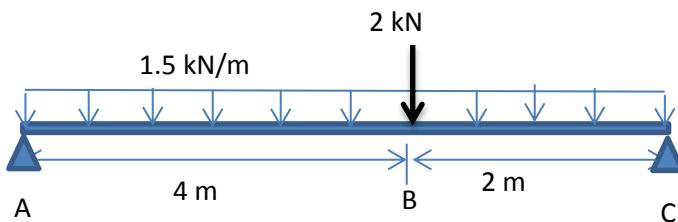

Figure 2 / Rajah 2
Figure 2 shows a 6m simply supported beam carries a uniform distributed load of 1.5 kN/m over the entire span and a point load of 2 kN at 2m from the right support.
- CLO1 (a) Referring to Figure 2, with the aid of free body diagram for the beam, express the value of reaction force.